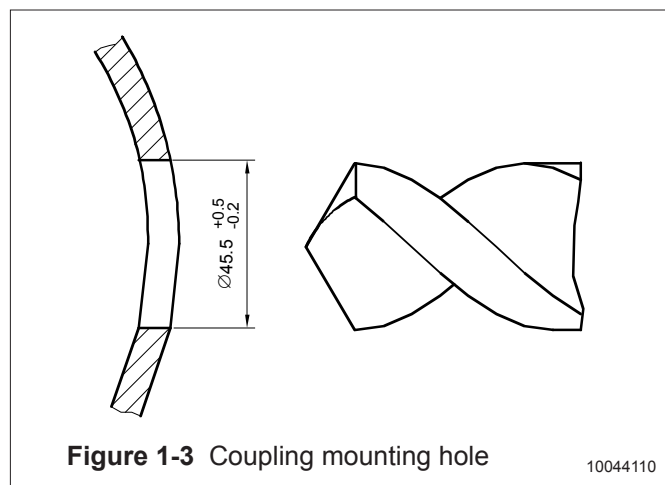

Figure 1-3 Coupling mounting hole
- Make a $\varnothing 45.5$ mm (+0.5/-0.2 mm) hole in the tank wall or pipe, as shown in Figure 1-3.